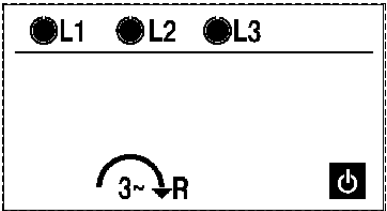
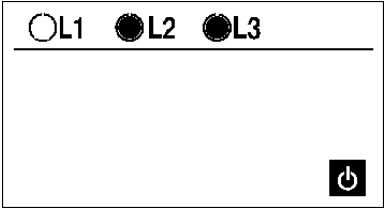

Figure 5.8.4: Display for clockwise phase sequence
Figure 5.8.6: Display for missing exterior conductor L1
- ▶ The exterior conductors and the phase sequence are directly displayed. Please refer to Figure 5.8.4 through Figure 5.8.6.